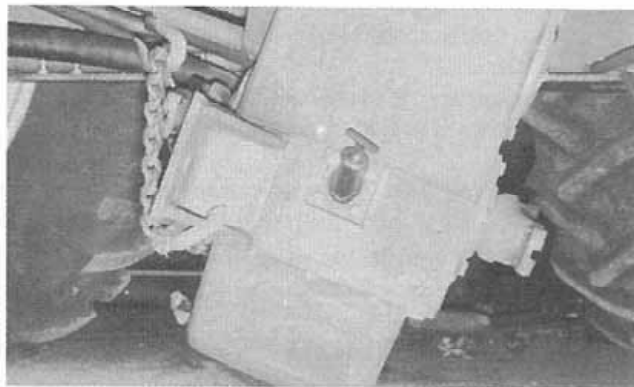

Figure 3:
3. Continue to lift the transfer case with the rear hoist and lower the unit with the front hoist to gradually bring it into a vertical position (Fig. 3).